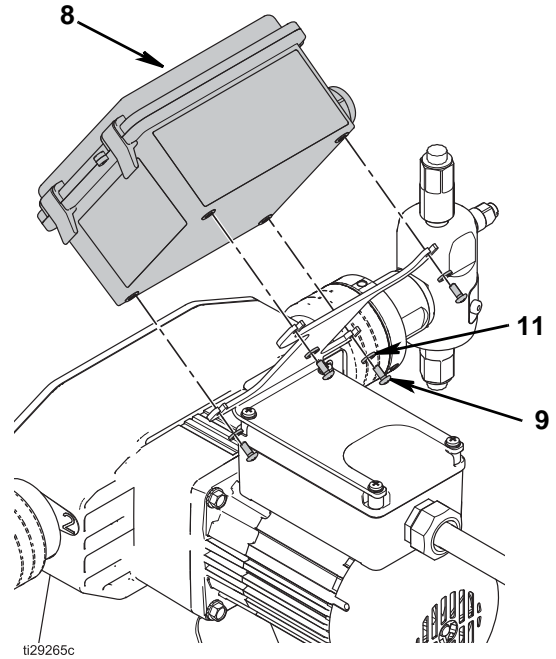

FIG. 9 Attach controller to pump mounting bracket
3. Attach the controller (8) to the mounting bracket (6) using supplied screws (9) and washers (11). See FIG. 9.